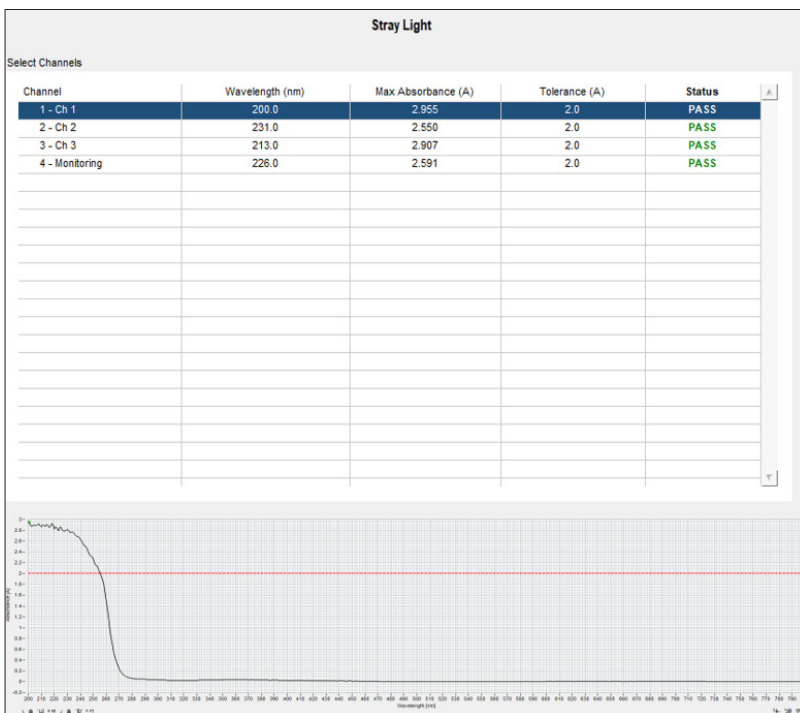

Figure 3: Results of a "Stray Light" RSV test.
The "Stray Light" module in our INDATECH Ready software lets you generate a reference sample to compare with your routine measurements. In this example, we took a measurement on a certified reference sample (CRM) provided by Hellma and composed of sodium iodide in pure water. Pure water was used as the reference for the absorbance calculation. Then, in compliance with the pharmacopeia standards, we set an acceptance limit at 2.0 absorbance units (AU) in the spectral range from 210 to 259 nm. Using the RSV module, we then performed a stray light test. The results are shown in Figure 3.